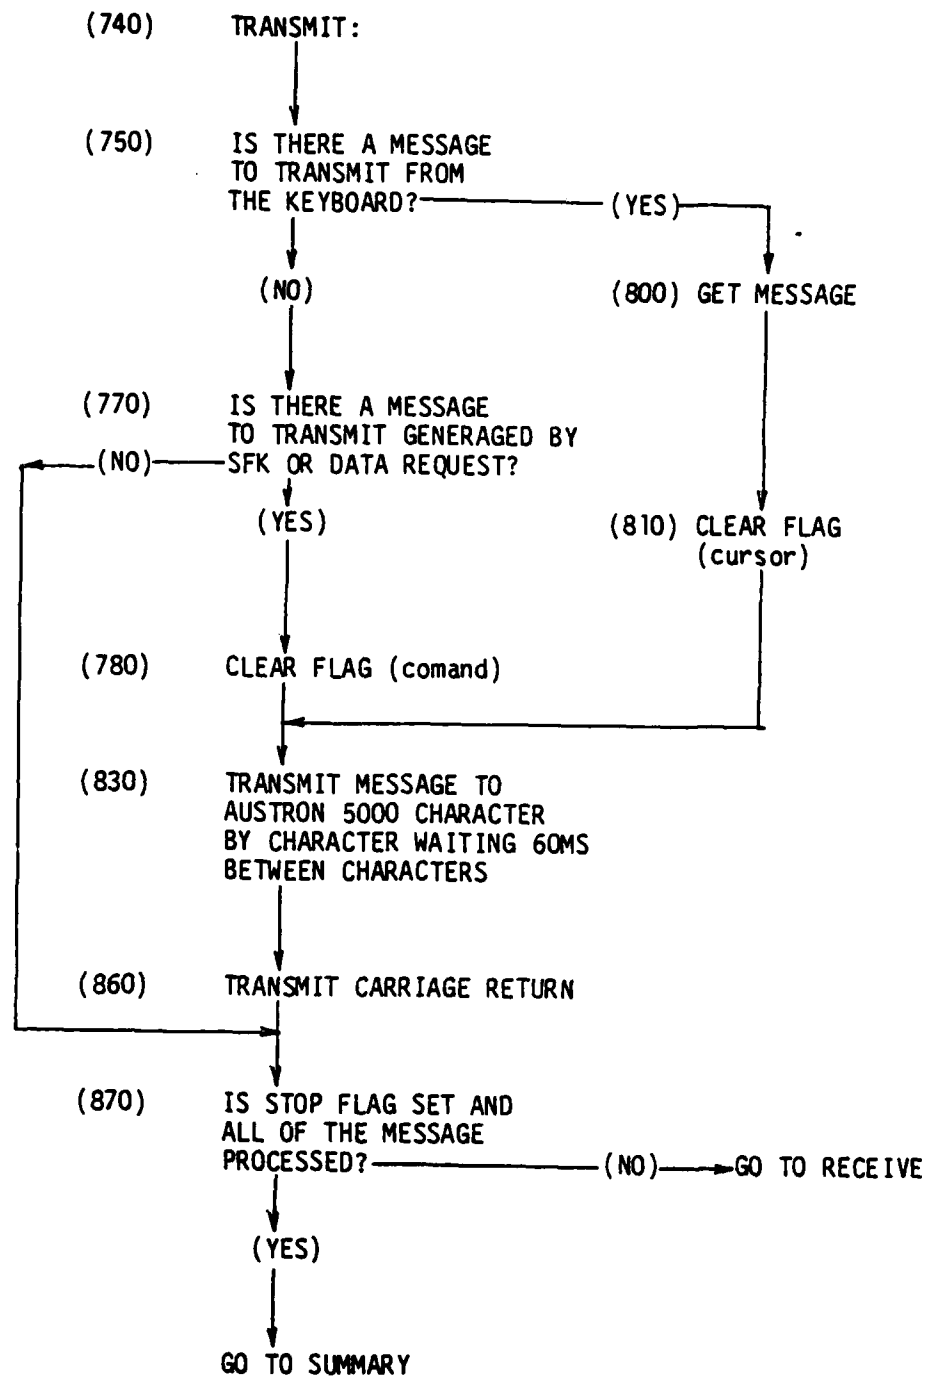

FIGURE 4-5. TRANSMIT MESSAGE HANDLER
4.1.1.3 Transmit Message Handler (See figure 4-5)